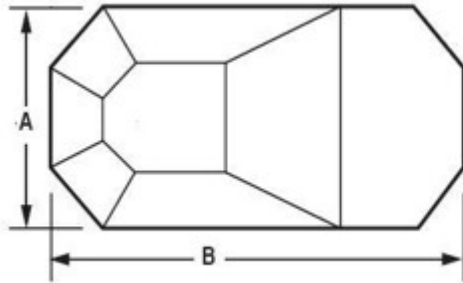
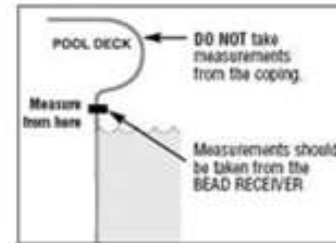

Figure 1
Figure 2
Referring to the illustration of your Grecian Pool (Figure 1), be sure that the width (A) and the length (B) measurements are made at the bead receiver (where the liner snaps into the track), not at the edge of the coping or the edge of the pool deck. (Figure 2)